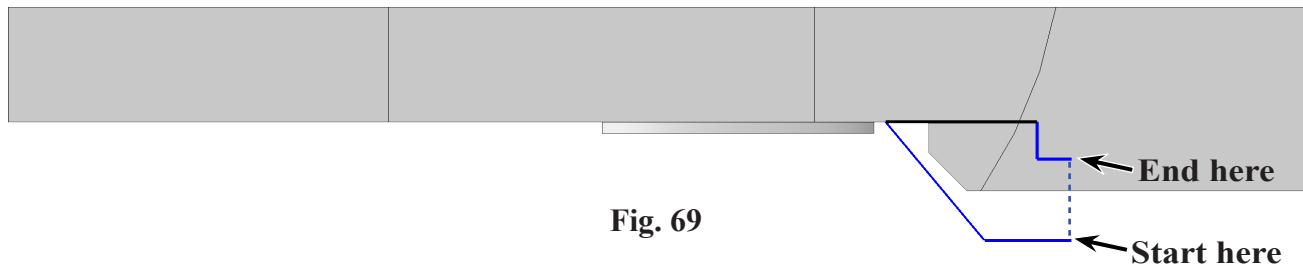

Fig. 69
Step 5. Sketch a line across bottom, up at angle to edge and across, a vertical line down and a horizontal line across to aligned with starting point, **Fig. 69**.